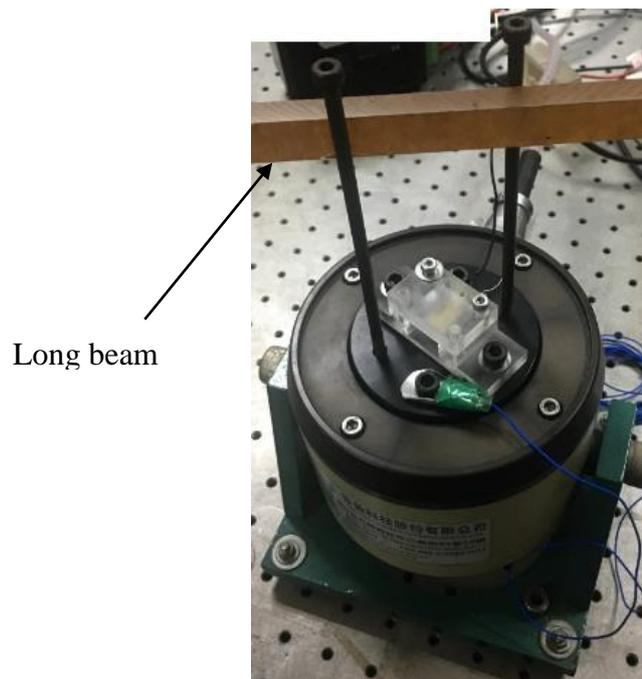

Figure 3.2 Long beam keep long screws stable
4. **Before tightening the short screws**, a person use a long screws or the long beam connect two long screws follow figure 3.2 and **keep two long screws stable to avoid the tightening screw torque damage the shaker.**
2. a person use a long screws or the long beam connect two long screws follow figure 3.2 and keep two long screws